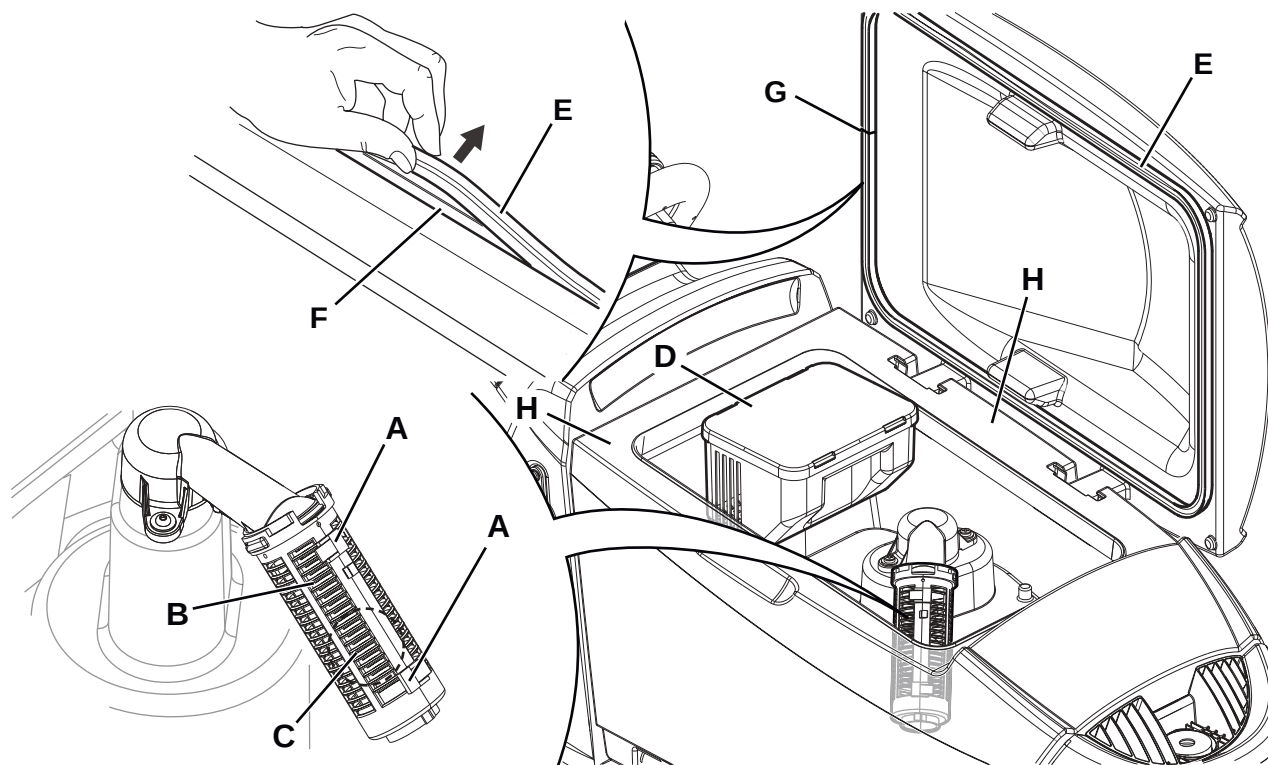

Figure 12
2. Ensure that the machine is off and the operator key (41) has been removed.
3. Raise the cover (34).
4. Wash the inside of the tank (33) and the cover with clean water.
5. Drain the water in the tank through the hose (12).
6. Clean the vacuum grid (31), release the fasteners (A, Fig. 12), open the grid (B) and recover the float (C) then clean it carefully and reinstall it.
7. Remove the debris collection tank (D) and open its cover, then clean it carefully and reinstall it on the vacuum hose.
8. Check the condition of the tank cover gasket (E).